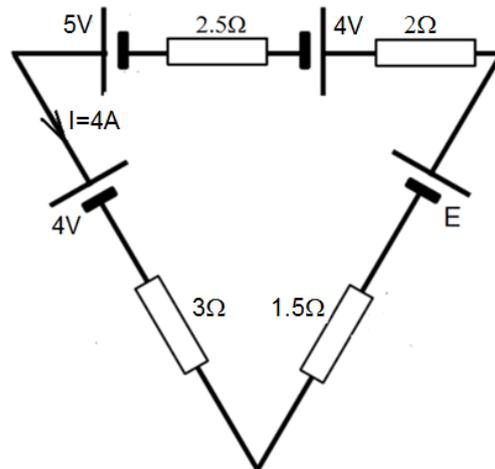

Figure Q3b
- (b) Using Kirchoff's laws and Ohm's law as appropriate determine the unknown emf,  $E$ , in figure Q3b. **(5 marks)**